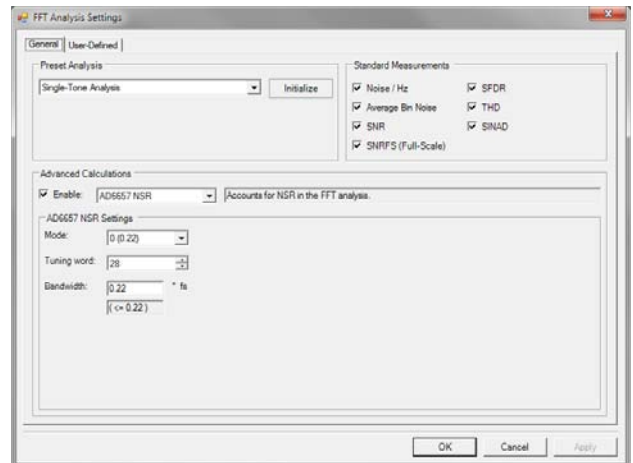

Figure 17. VisualAnalog, FFT Analysis Settings
7. Configure the settings in the **FFT Analysis Settings** to match the settings selected for the NSR in the SPIController (see Figure 17).